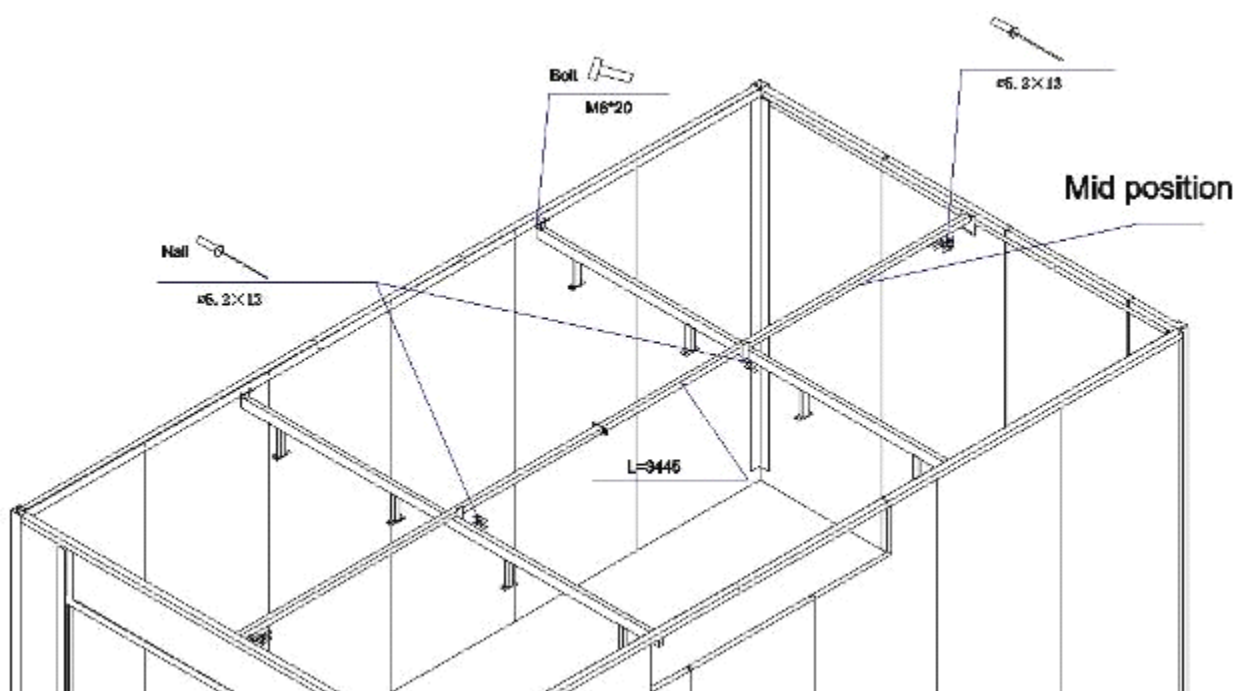

Fig. 3.13
1. Supporting beam installation(shown in Fig.3.13)